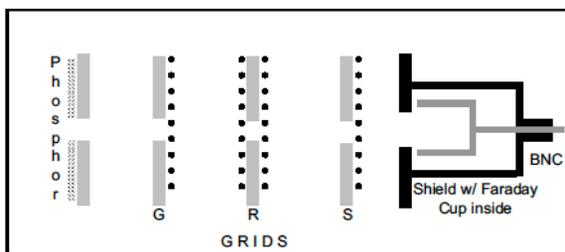

Figure 2. Schematic of Faraday Cup FC-71 with optional grids and phosphor screen.
The FC 71 Faraday cup can have a set of three grids so that it can be used as an energy analyzer. These grids are, in the order that the electrons or ions go through them: ground, retarding, and suppression, labeled G, R and S in the diagram with Figure 2.
- a. For the retarding grid (R in Fig. 2): Connect a 0 to 1000 V power supply (negative for electrons or negative ions, and positive for positive ions) through a vacuum electrical feedthrough to the pins on the second grid plate using Teflon-coated stainless steel
- b. For the suppression grid (S in Fig. 2): Similarly connect a 0 to 50 V power supply to the pin on the third grid plate.